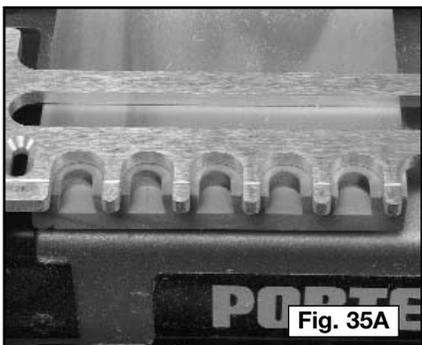

Fig. 35A
Step 1 - Cut the tails. Clean out all of the areas between the fingers(Fig. 35A).